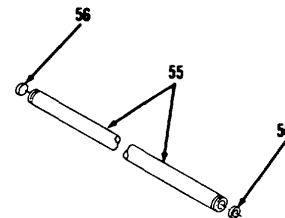

Figure 3-59.
34. Remove washer (51), spring (52), washer (53) and ring (54) from shaft (55).
35. Remove and discard two plugs (56) from shaft (55, Figure 3-59). Drill and pry out two plugs (56).